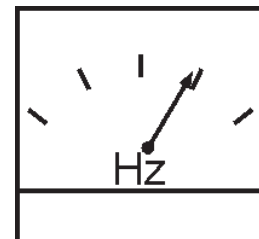

Figure 46. Frequency Meter
11. The generator's frequency meter (Figure 46) should be displaying the 50 cycle output frequency in **HERTZ**.